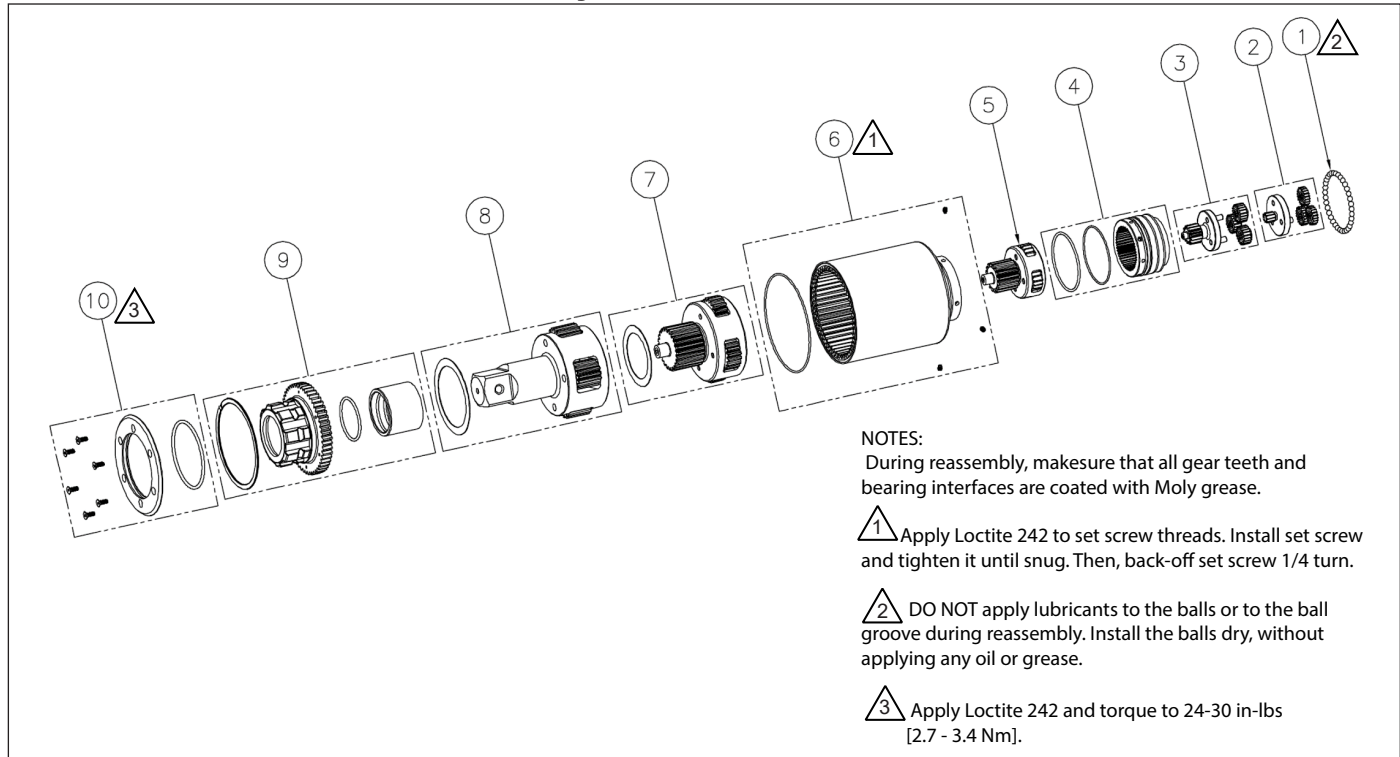

Figure 13: TW6000SR Gearbox Assembly
9.7.1 Table of Parts (Figure 13)